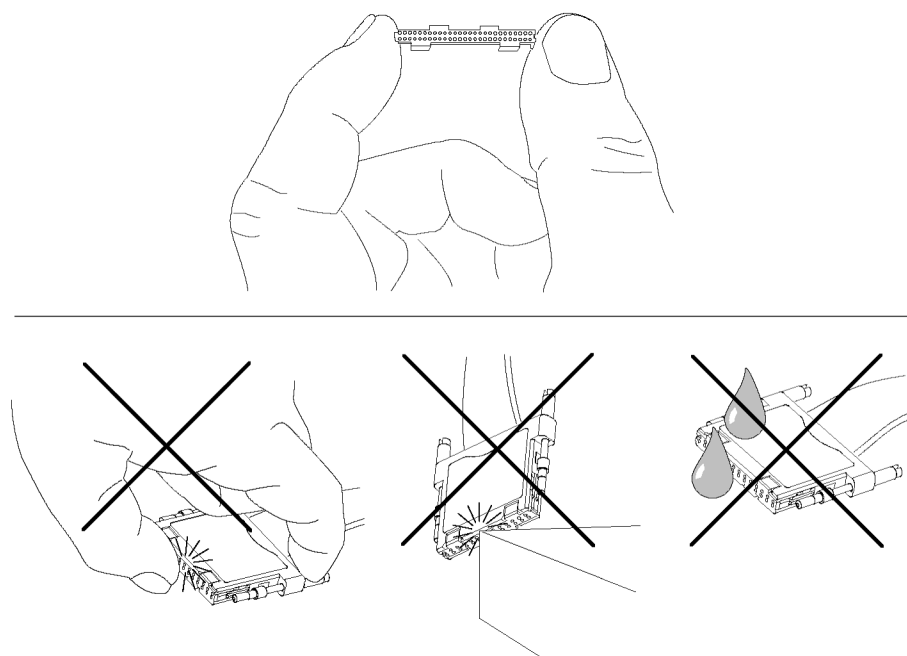

Figure 4: Proper handling of the interface clip
- Always handle the cLGA interface clip by the outer edges, and be careful to avoid the contacts in the center. Do not touch the contacts with your fingers, tools, wipes, or any other devices. (See Figure 4.)